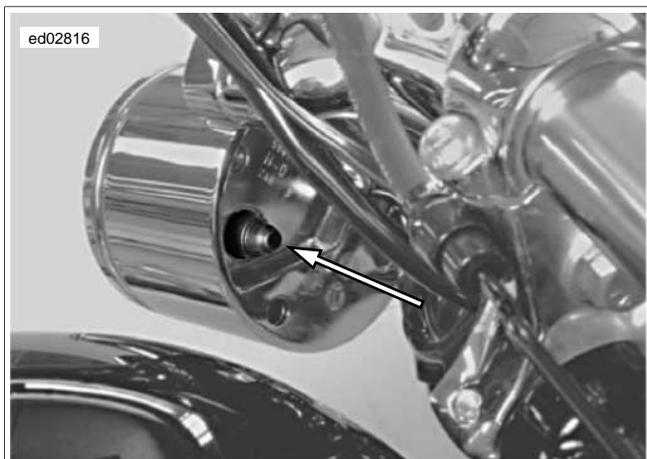
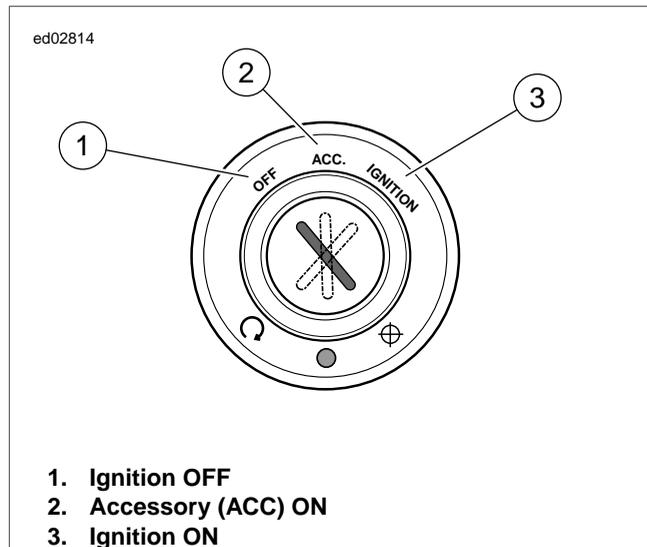

Figure 3-12. Trip Odometer Reset Switch (Typical)
Figure 3-13. Ignition Switch
- For a quick check of speedometer function, a "WOW" test can be performed. See Figure 3-12 and Figure 3-13. Press and hold trip odometer reset switch then turn Ignition Switch ON. Release trip odometer reset switch. See Figure 3-14. Background lighting should illuminate, gauge needles should sweep their full range of motion, and indicator lamps (battery, security, low fuel, and check engine) should illuminate.